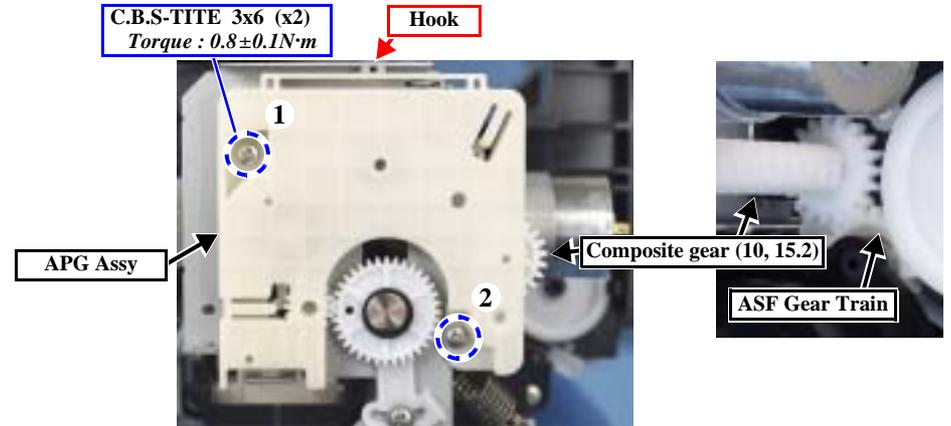

Figure 4-64. Removing the APG Assy
2. At the right side of the printer, remove the screws (x2) securing the APG Assy. (Fig. 4-64)